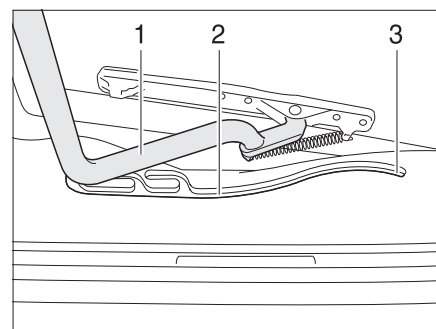

Fig. 86 Heki skylight, guide
- Pull the bar (Fig. 86,1) in the guides (Fig. 86,2) to the rearmost position (Fig. 86,3).
- Use both hands to push the bar (Fig. 86,1) slightly upwards.
- Pull the bar in the guides (Fig. 86,2) to the desired position.